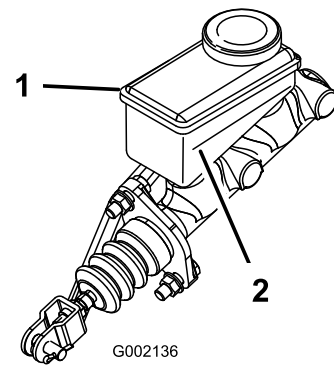

Figure 35
3. Look at the side of the reservoir. The level should be above the Minimum line (Figure 35). If the fluid level is low, clean the area around the cap, remove the cap, and fill the reservoir to above the Minimum line. Do not overfill.